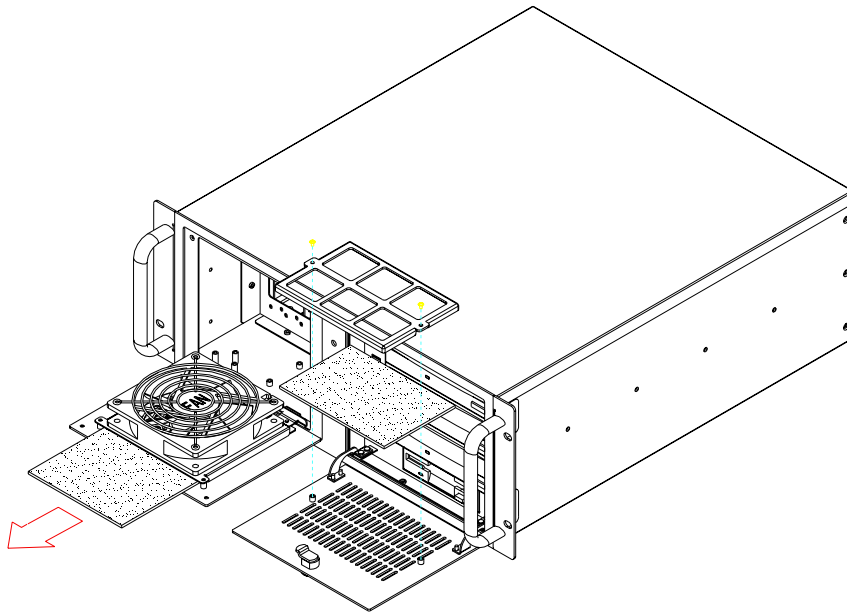

Figure 3.9 Replacing the filters for IPC-610-L/IPC-611
2. Pull out the filter behind the front door by loosening the screws; simply pull out the fan filter from the filter bracket. (see Figure 3.9)